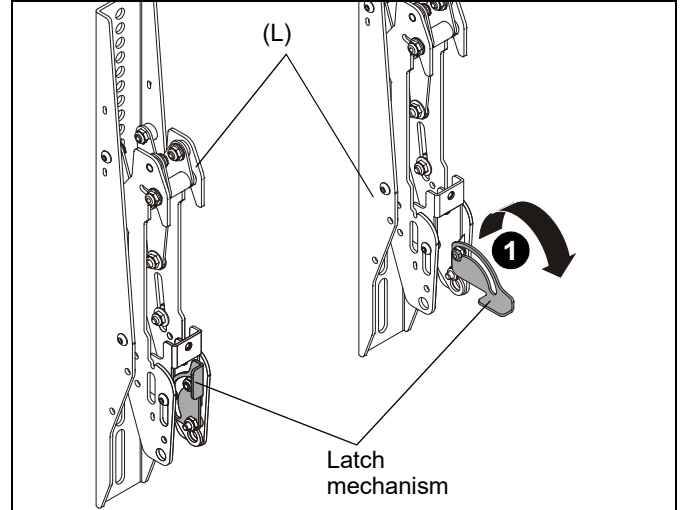

Figure 7
- Lower the latch mechanism on each interface bracket (L). (See Figure 7)